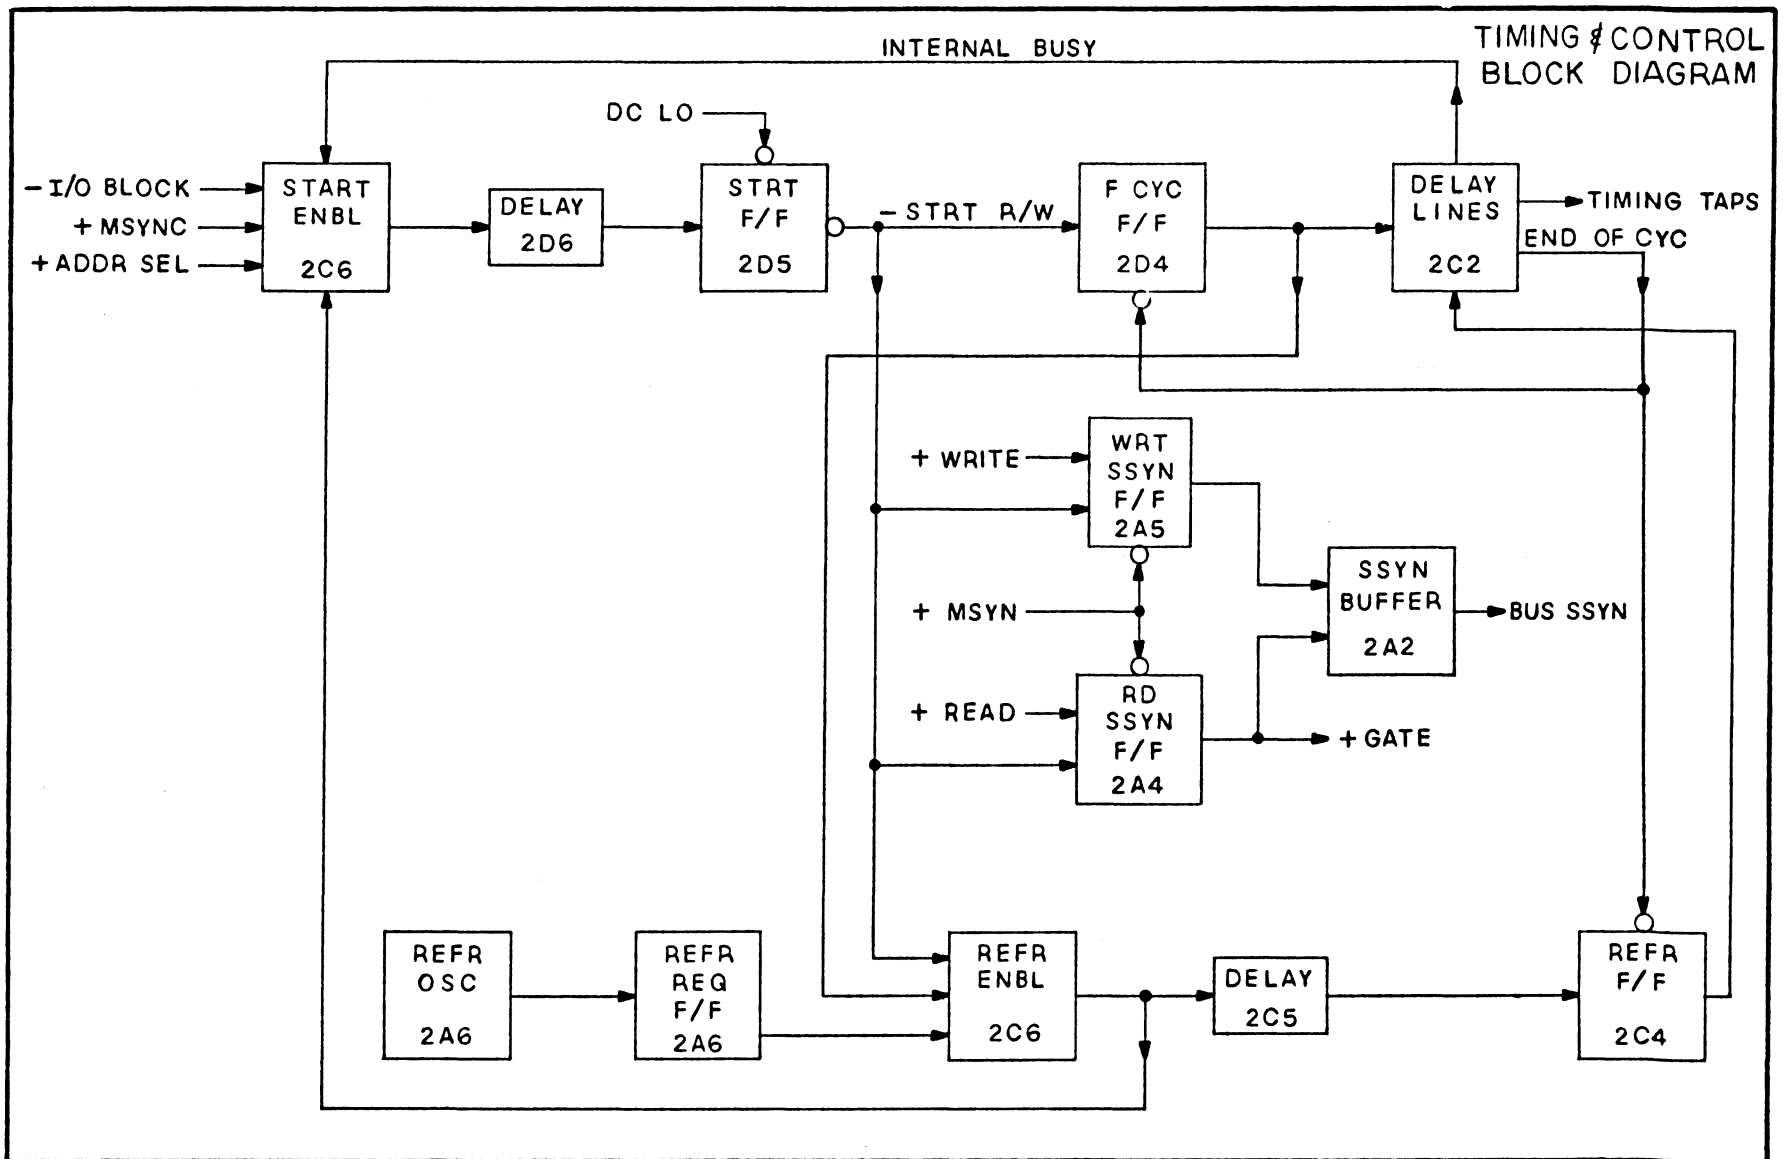

FIGURE 3-3
3.4 TIMING AND CONTROL (FIGURE 3-3)